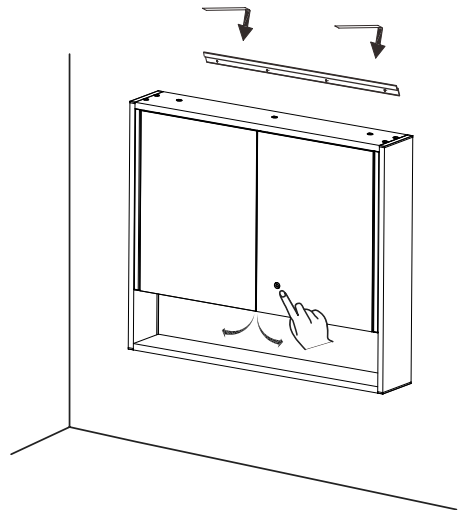

Fig.9
- 2.6 Finally, switch on the power, and then touch the switch sign (Fig. 9) with a finger on the lens to test the products.